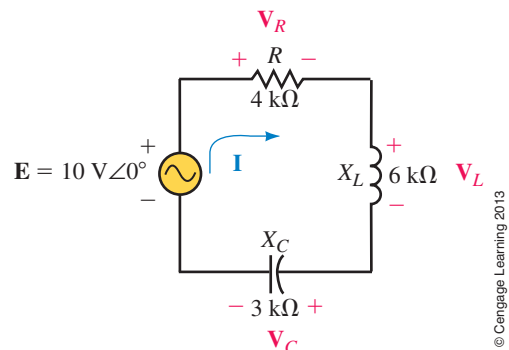

FIGURE 18-94
22. Consider the circuit of Figure 18-94.